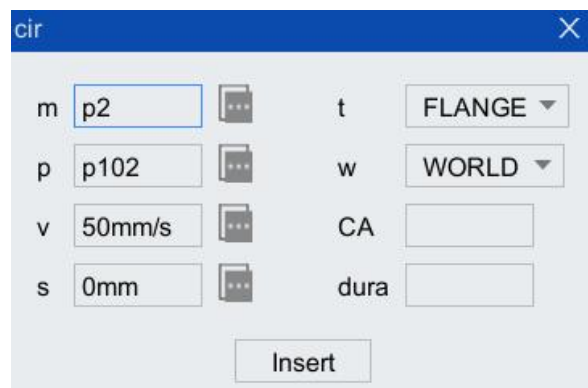

Figure 5-21 "cir" Instruction configuration interface
Step1. Click "Insert Cmd > Motion instruction > cir" option in the toolbar of "Program editor", and the "cir" instruction configuration interface as shown in Figure 5-21 will pop up.
- Step5. Click <Insert> button in Figure 5-21 to pop up "Are you need to create the variable \*\*\*" dialog box. Click <Yes> button, and then the instruction will be inserted successfully.